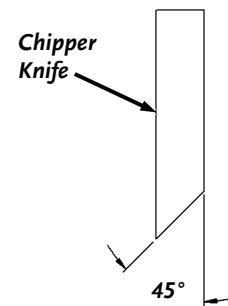

Figure 31
- It is extremely important to consistently maintain the 45-degree angle for proper performance (**Figure 31**).